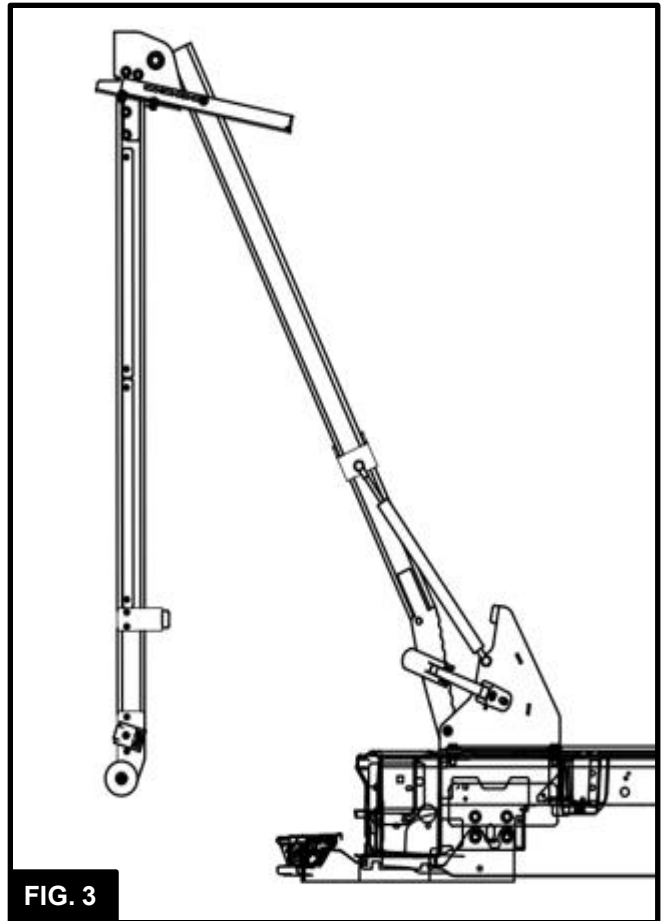

FIG. 3
4. Gently lower the ramp to the ground, keeping the lower deck vertical (**FIG. 3**).